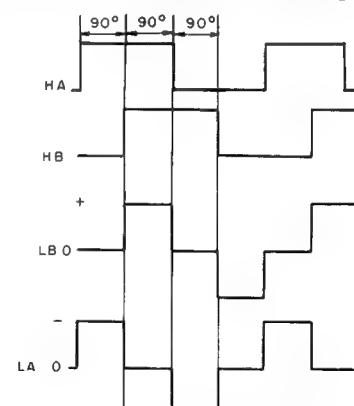

Fig. 12-8 Drive circuit waveforms
2. The position sensing signal produced by the Hall elements are each output to the block diagram position signal synthesizing circuit, and their waveforms are shaped as shown in Fig. 12-8.
3. The staircase waves are each input into the block diagram 4-phase drive circuit, and as shown in Fig. 12-8, LA and LB alternate back and forth in a  $90^\circ$  duty cycle (voltage) to turn the motor.